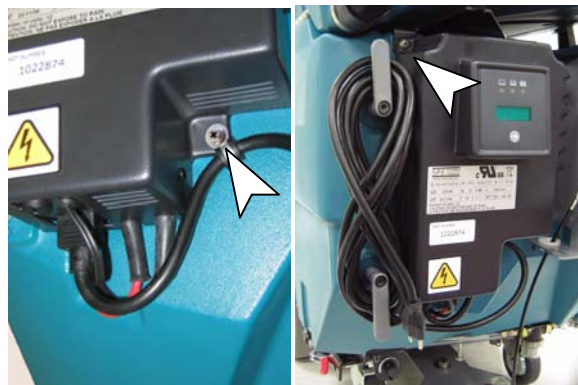

Fig. 1
1. Remove the (3) charger mounting screws (Figure 1).